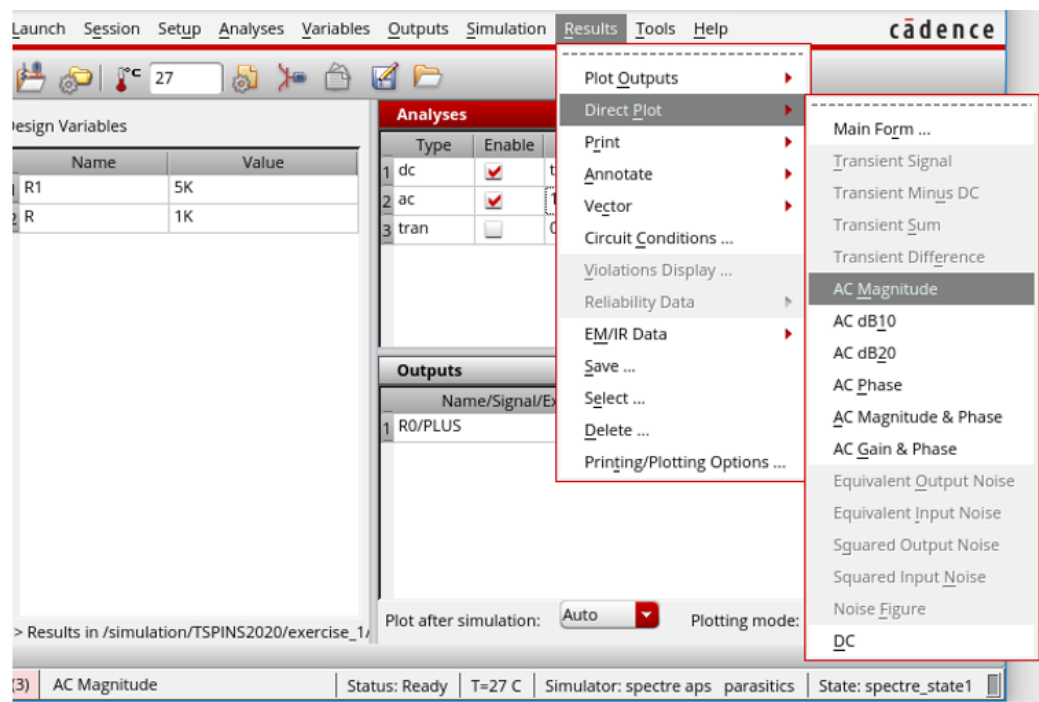

Fig.8 AC simulation result setting
- Set R1 as a variable if you need to design R_1 for a given gain. Then run simulation by selecting “**Stimulation**”→“Netlist and Run”. After the simulation is completed, select “**Results**”→ “Direct Plot”→“AC Magnitude”, then click the output as shown in Fig.8. The simulation result will be printed. Capture the screen, and report what is the value of R_1 when the overall gain is 6.